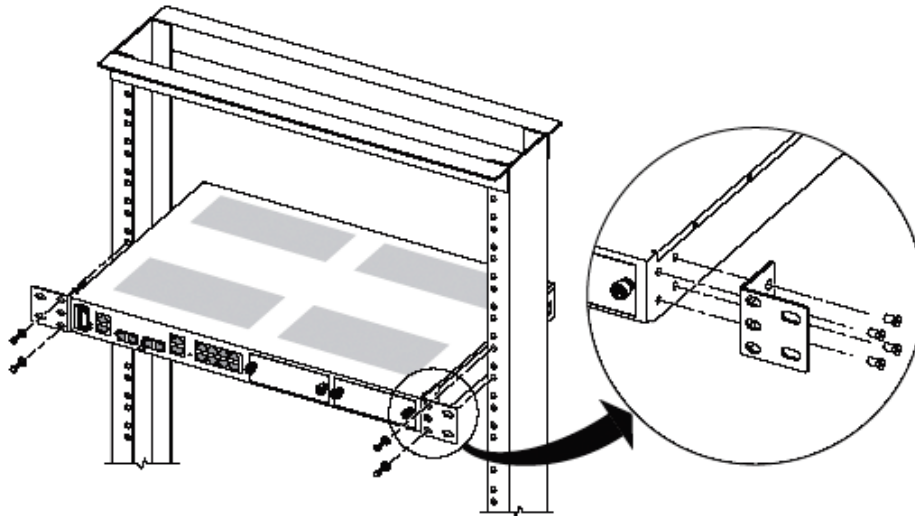

Figure 10. Mounting the OS-10 System Chassis in an EIA/TIA 19-Inch Rack
To install the OS-10 system chassis in an EIA/TIA 19-inch rack, see Figure 10 and follow these steps:
1. Install the two L mounting brackets in the orientation shown in Figure 10. Insert and fully tighten the screws to secure the brackets to the chassis (four screws for each bracket).